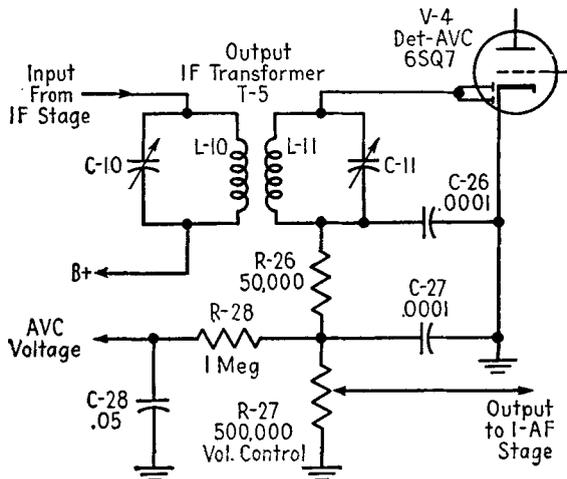

FIG. 12-7. Typical detector and AVC stage.
**Standard circuit for the detector and AVC stage.** A typical detector and AVC stage is illustrated in Fig. 12-7.